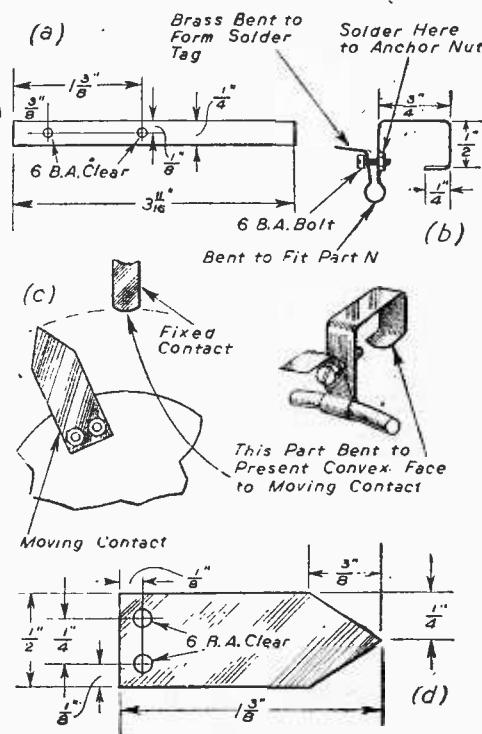

Fig. 21.—(a) and (b). Details of fixed contacts. (c) The convex contact point mentioned in the text. (d) The pointer.
TH E contacts next need to be manufactured. No great accuracy is needed here, as the method of fixing allows the downward pressure as well as the sideways movement of these contacts to be adjusted. Fig. 21 (a) and (b) give details of the contacts. The material used may be springy brass (as obtained from a flash lamp battery), phosphor-bronze, or any other fairly springy metal. The contacts are self-wiping and are only needed to light a dial-lamp, so there is little need to worry about special contact surfaces. It will be seen that the contact is bent at one end to fit the semi-circular contact holder, part N. A 6 B.A. nut and bolt are fitted to the two holes drilled in Fig. 21 (a) to allow the contact to grip the holder tightly at the desired position. A small spot of solder holds the nut to the brass, making it an anchor nut. It will be seen that the screw is tightened and loosened from behind.
The part of the contact which touches the contact on the moving disc is made to present a slightly convex surface to that contact. See Fig. 21 (b) and (c). This ensures a smoother travel.
24. The moving contact just mentioned is made from brass plate, as shown in Fig. 21 (d). It is mounted as shown in the photograph, on the front side of the circular disc.